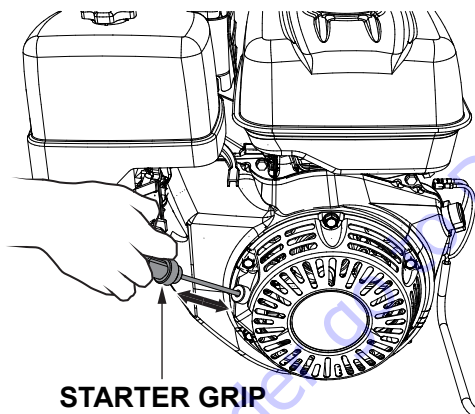

Figure 38. Starter Grip
- Slowly pull the starter grip (Figure 38) until resistance is felt, then pull briskly and smoothly to start the engine. Gently return the starter grip to its original position.